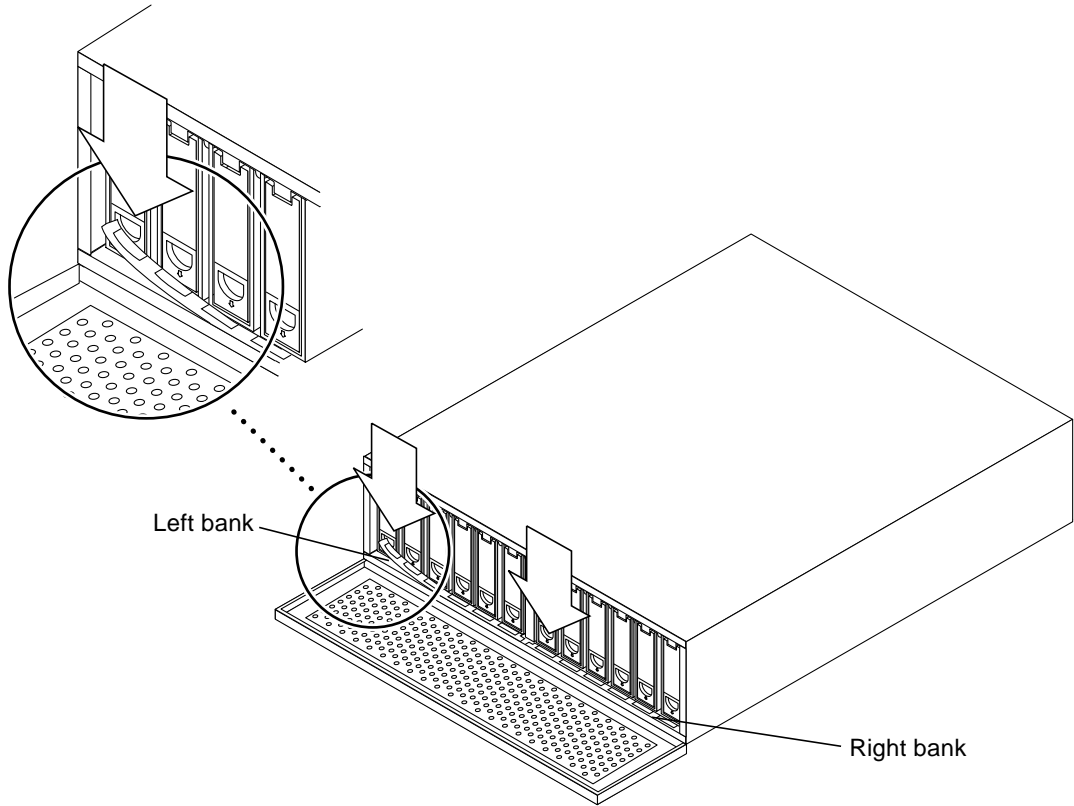

FIGURE 3-4 Applying the Drive Bay Labels
- 4. Apply the left drive bay label to the chassis in front of the drives on the left bank and the right drive bay label to the chassis in front of the drives on the right bank (FIGURE 3-4).**